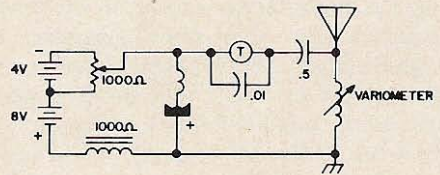

Fig. 2. Receiver
For the moment, it can be considered that the series capacitive reactance on 2 meters is insignificant, and the antenna acts as a straight rod. If the antenna were excited on 2 meters, a situation similar to that shown in Fig. 2(A) would result. If the total length of the antenna happened, by chance, to be correct, it might still match the transmission line impedance. The chances of such an event taking place are rather small, however. Even if it were to occur, the total length of the antenna would be such that a number of current reversals (one every  $\frac{1}{2}\lambda$ ) could take place. Since the currents in different sections would be out of phase, the resultant radiation pattern would split into a number of lobes in a manner similar to that for a long wire antenna. The result would be radiation and useful for little more than communicating with an aeronautical mobile station directly overhead.
The use of a few simple  $\frac{1}{4}\lambda$  stubs on 2 meters can provide both proper matching of the antenna to the transmission line and correct phasing of the antenna currents. This situation is illustrated in Fig. 2(B). Note that the stub on the bottom of the antenna is connected differently than the other stubs. The "closed" end is connected to the ground terminal (shield of the transmission line) and not to the antenna (center conductor of the transmission line). Calling it a "stub" is actually a misnomer since it functions on 2 meters as a quarter wave transmission line transformer to match the low impedance of the transmission line to the high impedance of the first  $\frac{1}{2}\lambda$  section of the antenna. The operation is the same as the well-known "J" antenna. The other stubs cause a phase reversal between the  $\frac{1}{2}\lambda$  sections so that the currents in each section line up properly. The result is that a radiation pattern is produced which is omnidirectional in the horizontal plane and also which has several db of gain with low angle radiation in the vertical plane.
Fig. 3 shows an example of how the scheme of Fig. 2(B) was used with a 14AVG
Fig. 2. Exciting a multiband antenna on 2 meters without any modifications being made to the antenna may produce some useful radiation but usually the antenna will not impedance match the transmission line and the current distribution on the antenna (A) will produce mostly useless high angle radiation. Both correct impedance matching and correctly phased current distribution for effective low angle radiation can be achieved by the use of a few simple stubs (B).